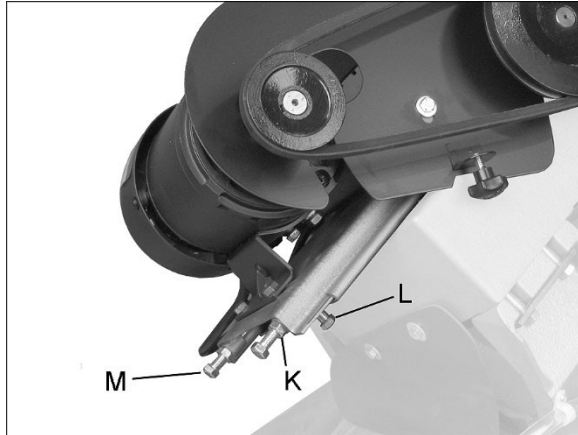

Figure 8-5: belt tension/replacement
2. Open pulley cover, and loosen hex nuts (K, Figure 8-5). Turn screw (L) out to relieve pressure on motor mount plate.
3. Turn screws (M) clockwise to push motor mount plate, relieving tension on belt.